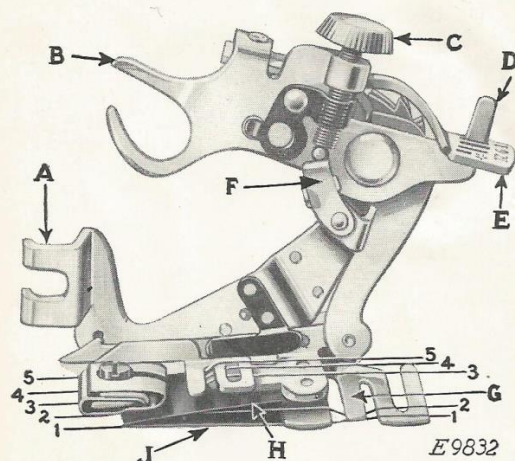
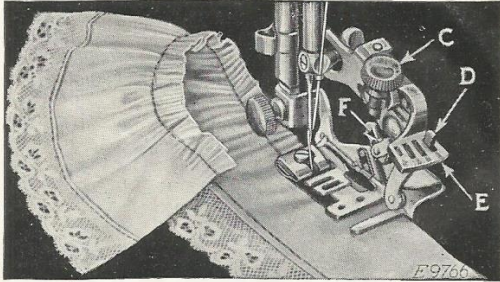
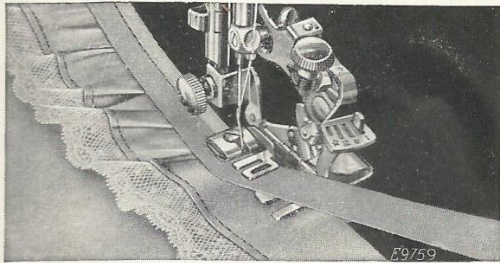
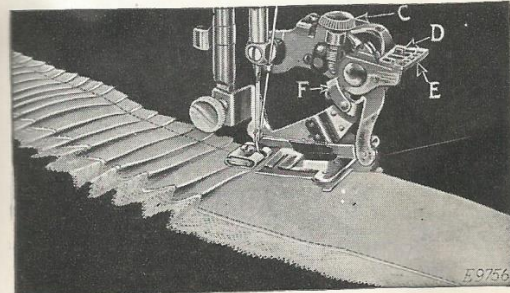

FIG. 55. THE RUFFLER AND ITS PARTS
FIG. 56
FIG. 58
FIG. 60
Lines 1, 2, 3, 4 and 5 shown in Fig. 55 indicate where the material is to be placed for various operations, as follows:
Refer to Fig. 55 when inserting the material in the ruffler.
(SEE REFERENCES IN FIG. 55)
Raise the needle bar to its highest position and remove the presser foot. Attach the ruffler foot (A, Fig. 55) to the presser bar from the right and fasten by means of the thumb screw, at the same time placing the fork arm (B, Fig. 55) astride the needle clamp as shown in Fig. 56.
The adjusting finger (F, Fig. 56) is not intended for gathering and should be moved forward or away from the needle, as shown in Fig. 56.
Raise the adjusting lever (E, Fig. 56) and move it to the left so that the projection (D, Fig. 56) will enter the slot marked "1" in the adjusting lever (E) when the lever is released. The ruffling blade will then move forward and back once at every stitch. Insert the material to be ruffled between the two blue blades, following the line 2 in Fig. 55. Draw the material slightly back of the needle, lower the presser bar and commence to sew.
To make fine gathering, shorten the stroke of the ruffling blade by turning the adjusting screw (C, Fig. 56) upward; also shorten the stitch. To make full gathering, lengthen the stroke of the ruffling blade by turning the adjusting screw (C) downward; also lengthen the stitch. By varying these adjustments, many pleasing varieties of work can be accomplished.
2, in Fig. 55. Place the garment to which the ruffle is to be attached, under the separator blade, following the line 1, in Fig. 55. Proceed the same as for gathering.
Insert the material to be ruffled between the two blue blades, following the line 2, in Fig. 55. Place the garment to which the ruffle is to be attached under the separator blade, following the line 1, in Fig. 55. Place the material for the facing over the upper blue blade, as shown in Fig. 58, following the line 3, in Fig. 55. The facing may be straight or bias material. If the facing is to be on the right side of the garment, place the garment and
Insert the material to be ruffled between the two blue blades, following the line 2, in Fig. 55. This
The material for piping must measure about  $\frac{1}{4}$  inch wide when folded in the center and is usually cut on the bias. Place the piping material in the ruffler, following the line 4, in Fig. 55, with the folded edge of the piping to the right. The material to which the piping and ruffling are to be sewn should be folded on the edge and inserted in the ruffler, following the line 5, in Fig. 55.
Raise the adjusting lever (E, Fig. 60) and move it to the right so that the projection (D, Fig. 60)
will enter the slot marked "6" in the adjusting lever when the lever is released. The ruffling blade will then move forward and back once at every six stitches. To adjust the ruffling blade to make a plait once at every twelve stitches, place the adjusting lever (E, Fig. 60) so that the projection (D) enters the slot marked "12" in the adjusting lever. Insert the material to be plaited between the two blue blades, following the line 2 (Fig. 55). The size or width of plaits is regulated by the adjusting screw
(C, Fig. 60) and the adjusting finger (F, Fig. 60). To make a wider plait, move the adjusting finger (F) back or toward the needle and turn the adjusting screw (C) downward. To make a smaller plait, turn the adjusting screw (C) upward. The distance between plaits is regulated by the length of stitch.